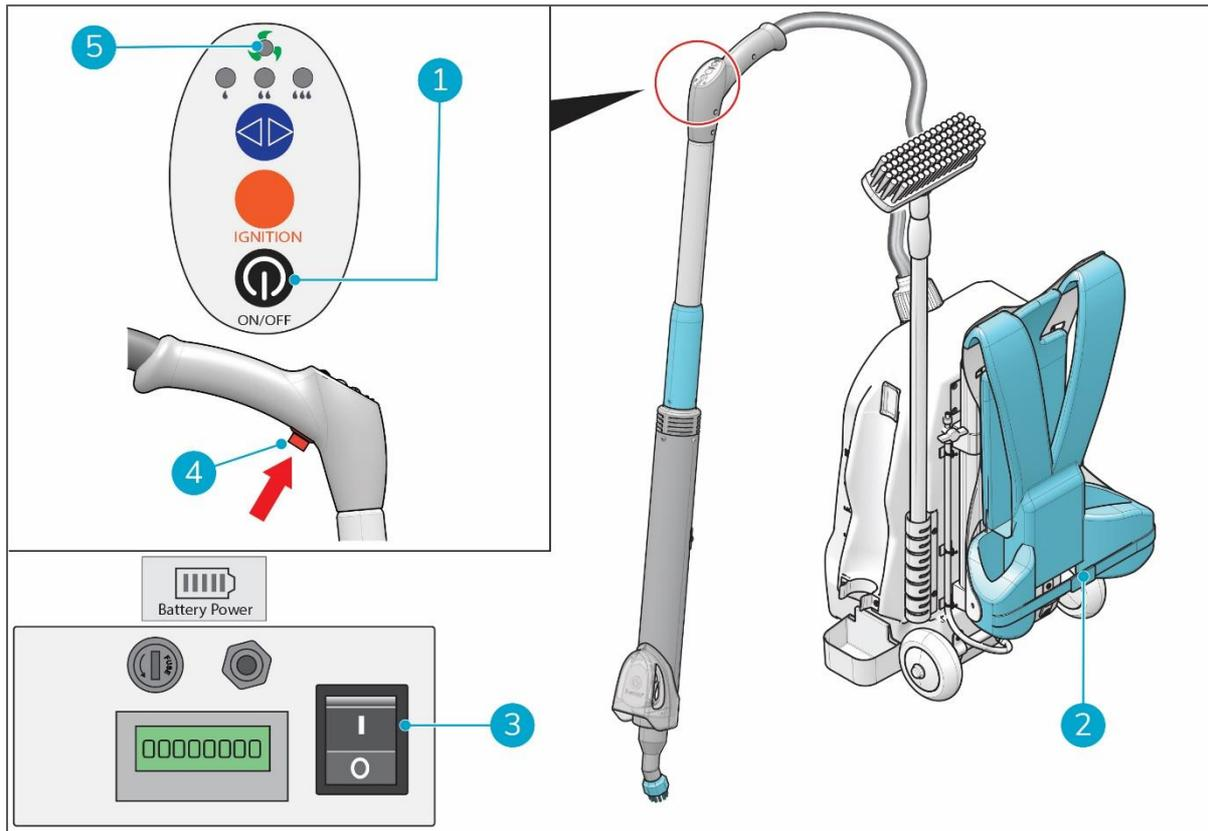

Figure 24
1. Turn off the SELF-LOCK button (Figure 24, pos 4).
2. Turn off the pump via the ON/OFF button (Figure 24, pos 1). The H/M/L indicator light goes out. The pump goes out after 3 minutes, as the ventilator needs to be cooled before storage.
6. Turn off the SELF-LOCK button (Figure 24, pos 4).
7. Turn off the i-gum[®] via the ON/OFF switch on the handle control (Figure 24, pos 1).
8. Remove the backpack and close the strap (Figure 24, pos 2) to hold the waistband together.
9. Turn off the i-gum[®] via the main power switch (Figure 24, pos 3).
10. Turn off the main power switch (Figure 24, pos 3).